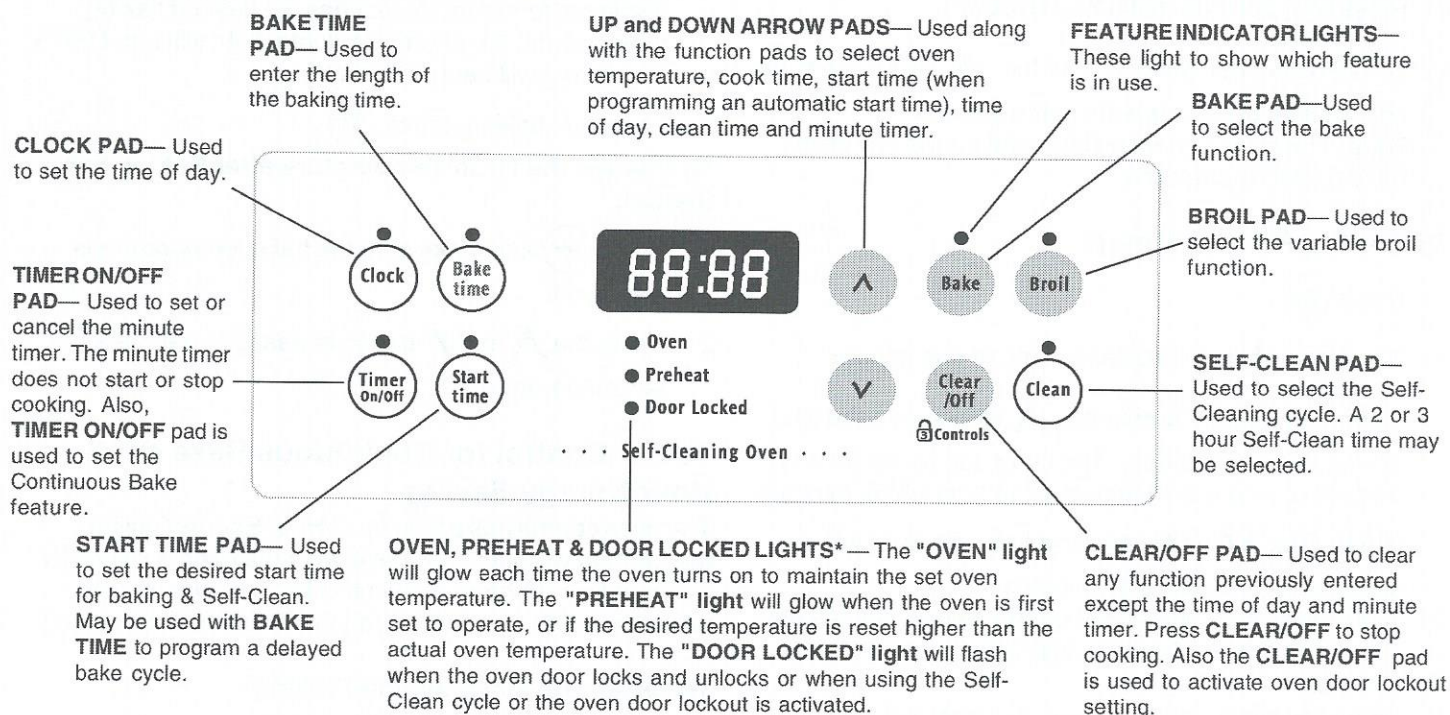

Fig. 2
Your range is equipped with one or more **Flat Oven Rack(s)**. Place the rack(s) into the positions shown in Fig. 2. Refer to the following *Recommended Rack Positions for Broiling, Baking & Roasting* for complete information.
3. When using 2 oven racks at the same time, place in positions 1 & 4 for best results (See Fig. 2).